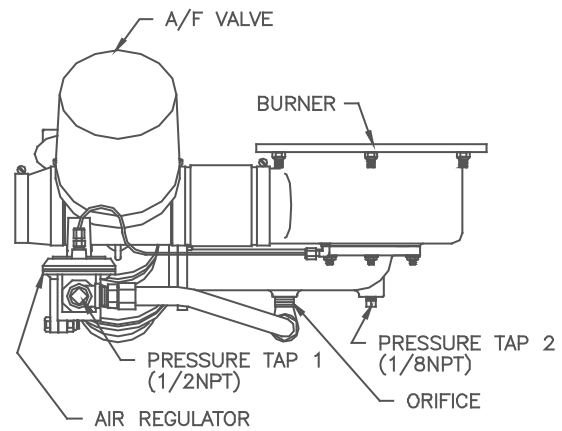

Figure 4.5
1. Referring to Fig. 4.5, remove the 1/8" NPT plug from the gas inlet pipe ahead of the burner and install a 1/8" NPT barbed fitting.
2. Remove the 1/2" NPT plug from the tee located after the air pressure regulator and install a 1/2" barbed fitting (see fig. 4.5).